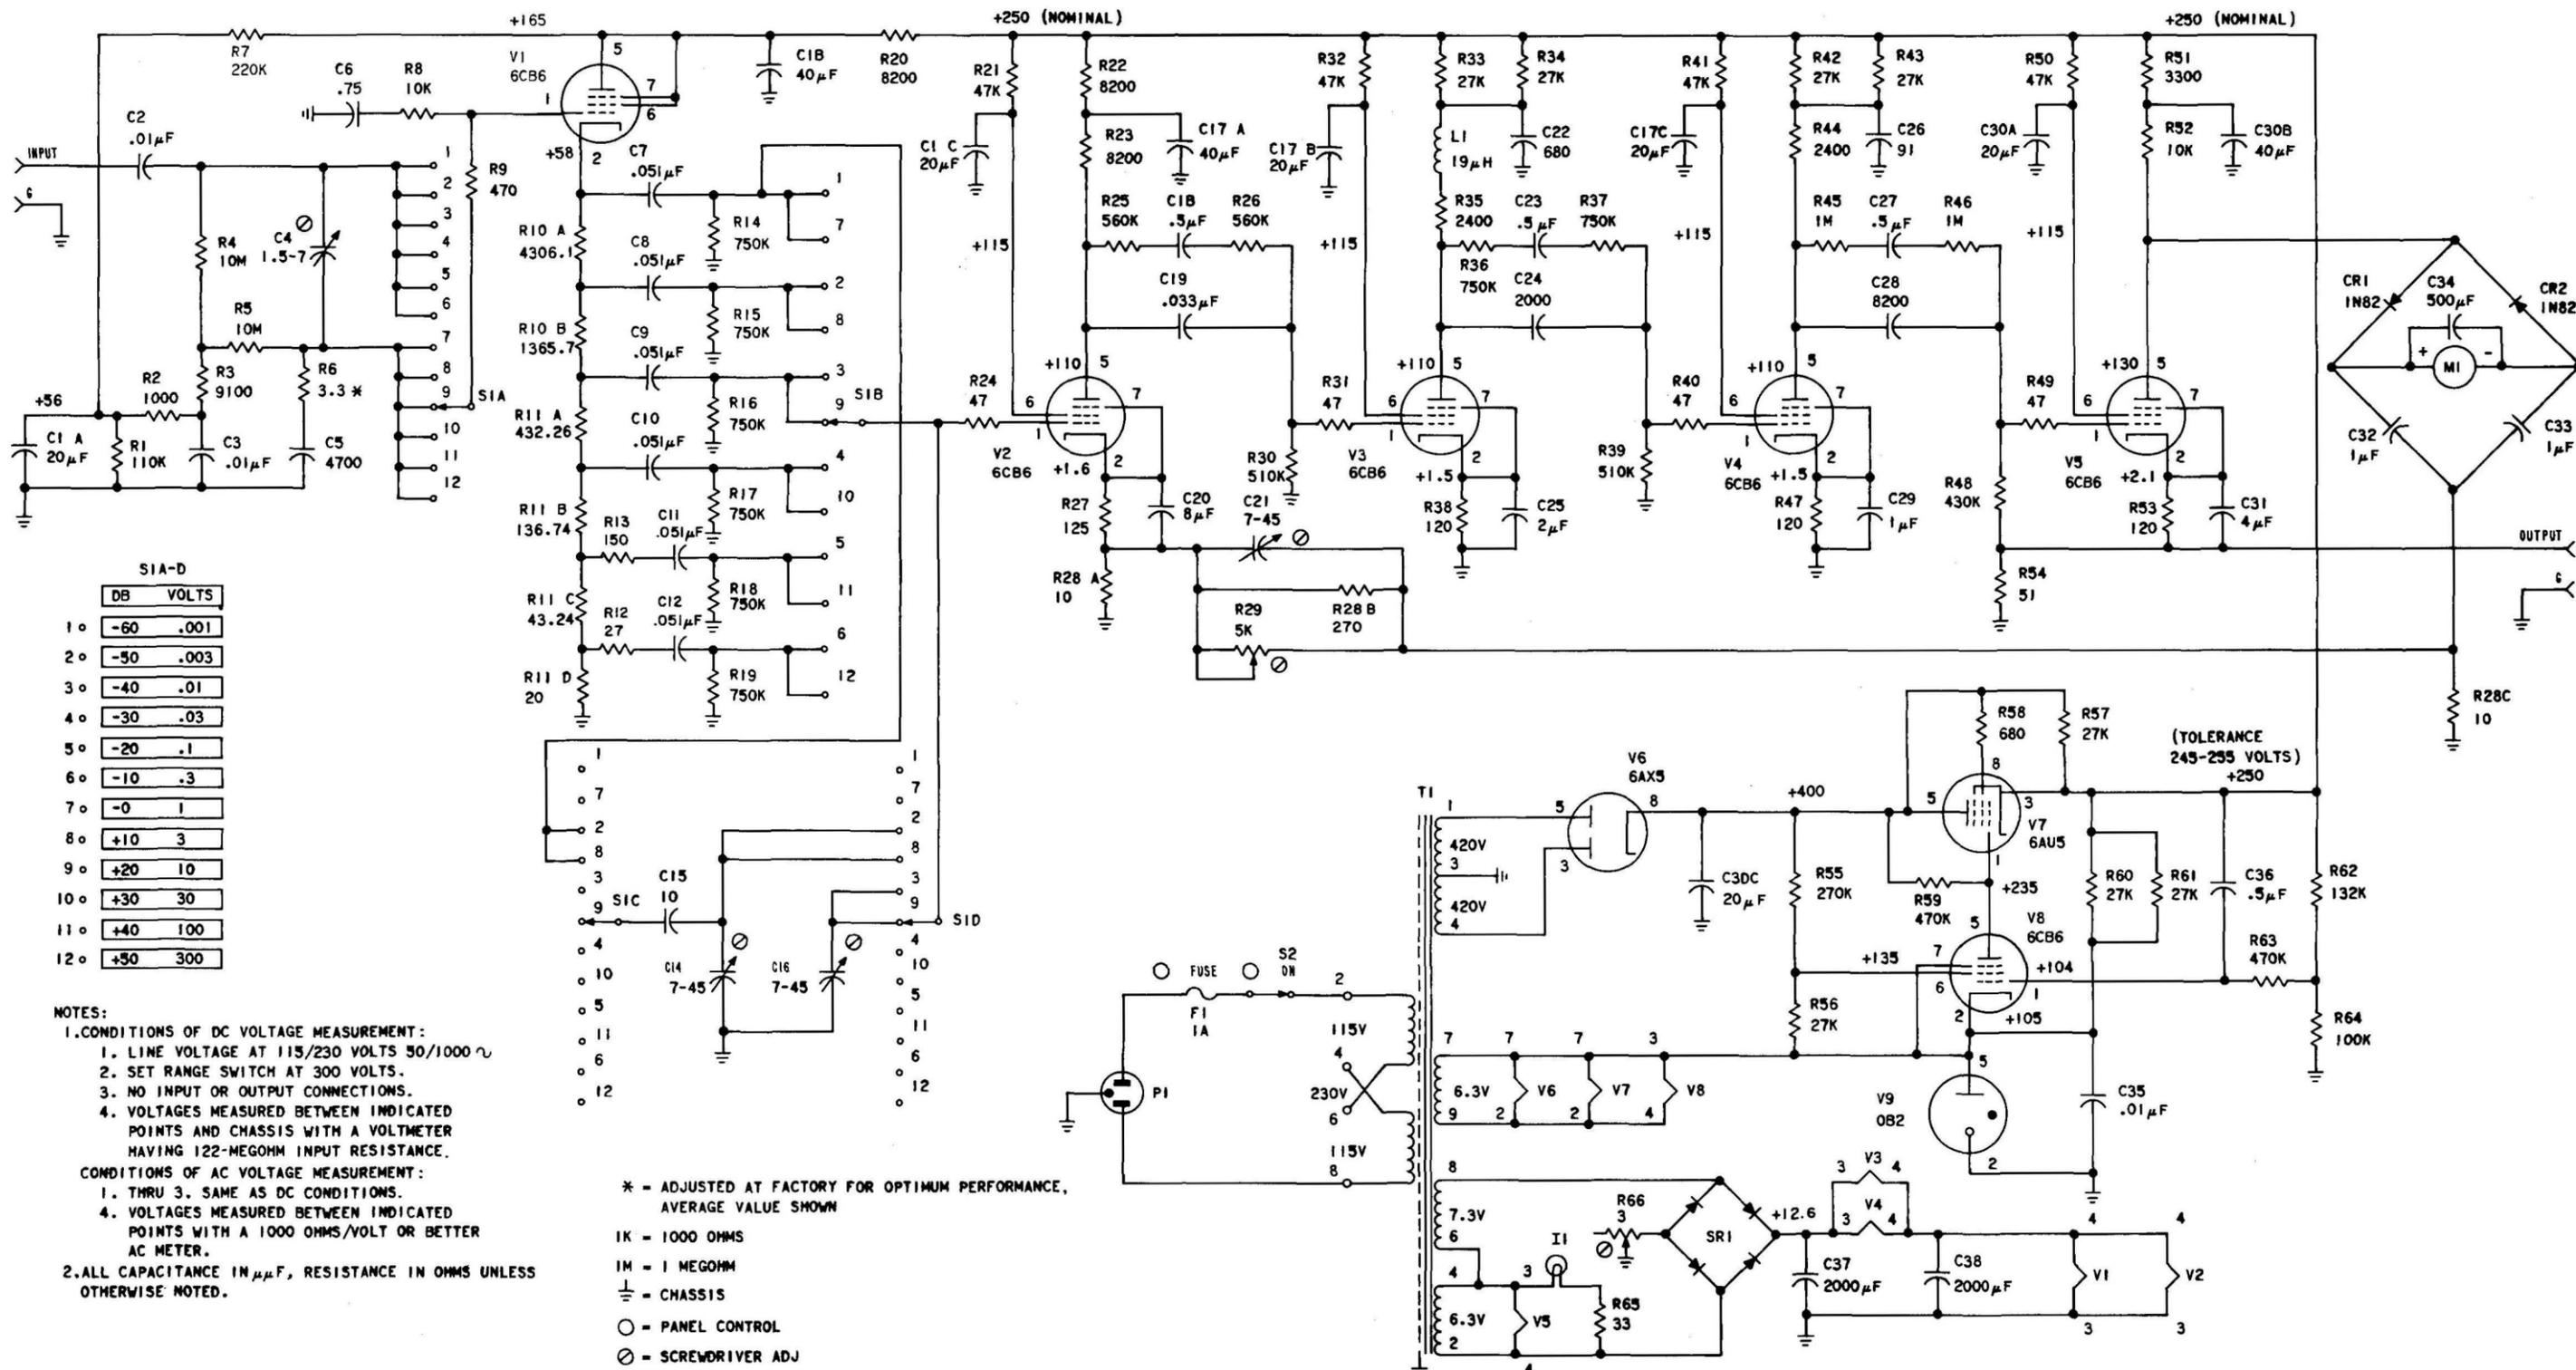

Fig. 6—Schematic Diagram—Models With Prefixed Serial Numbers Not Listed in 1.06
4.02 The input voltage divider limits the signal level applied to the input cathode follower (V1) to less than 0.3 volt RMS, when voltages above this level are measured with the RANGE switch set at the 1-volt range or above. The divider consists of a resistive branch with one element made adjustable to obtain exact 1000:1 division at middle frequencies and a parallel capacitive branch with one element made adjustable to maintain exact 1000:1 division to beyond 4 MHz. The input impedance of the VTVM is established by this divider and is the same for all positions of the RANGE switch. On the six low-voltage positions of the RANGE switch, the input divider provides no attenuation of the input voltage (see Fig. 6 and 7).